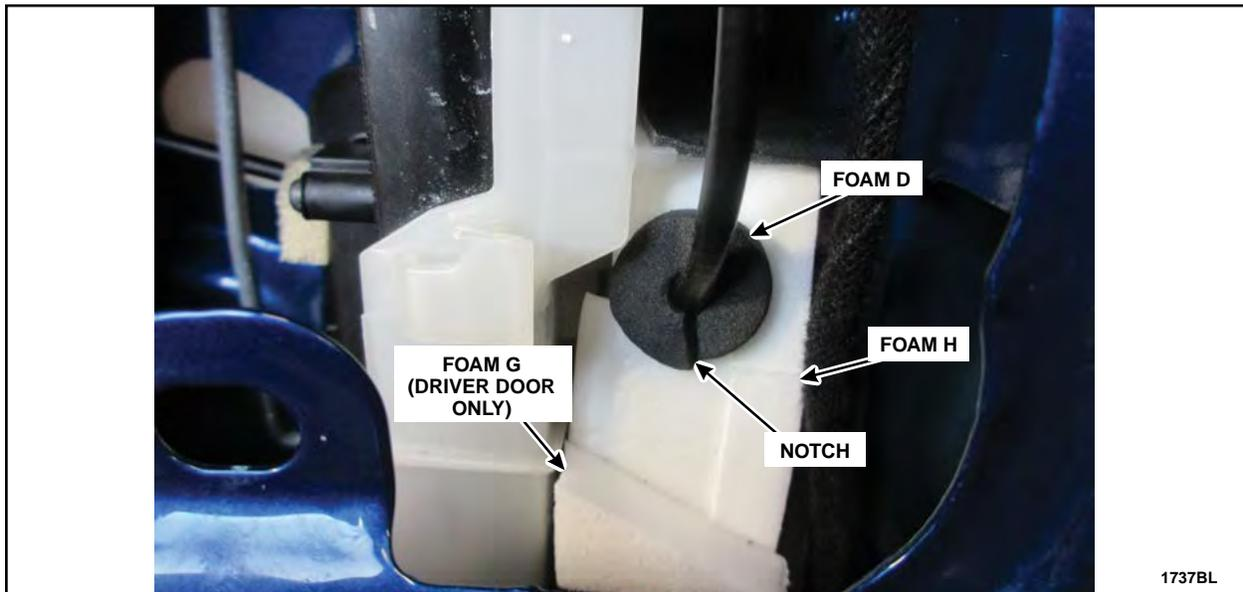

FIGURE 33
3. Install Foam D over the door latch cable and onto Foam H (driver door) and Foam B (passenger door) to cover the gap between the cable and Foam H. See Figure 33.